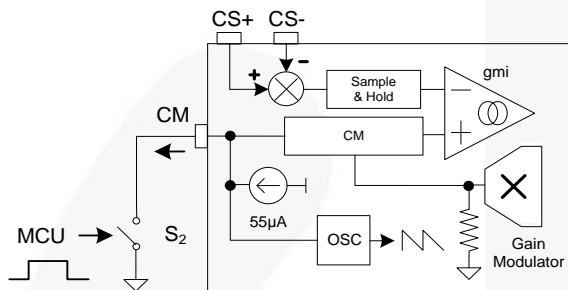
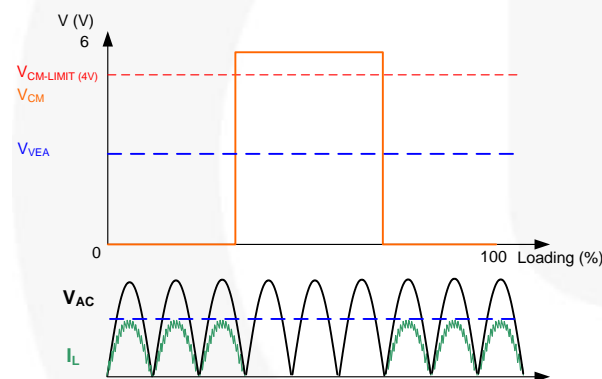

Figure 14. Channel Management by MCU
Figure 15. Channel Management by MCU
To disable the Channel Management (CM) function and control the channels with an external signal from the MCU, the configuration is shown in Figure 14. If  $V_{CM} > 4\text{ V}$ , the channel is disabled. To enable the channel,  $V_{CM}$  must be 0 V, as Figure 15 shows.